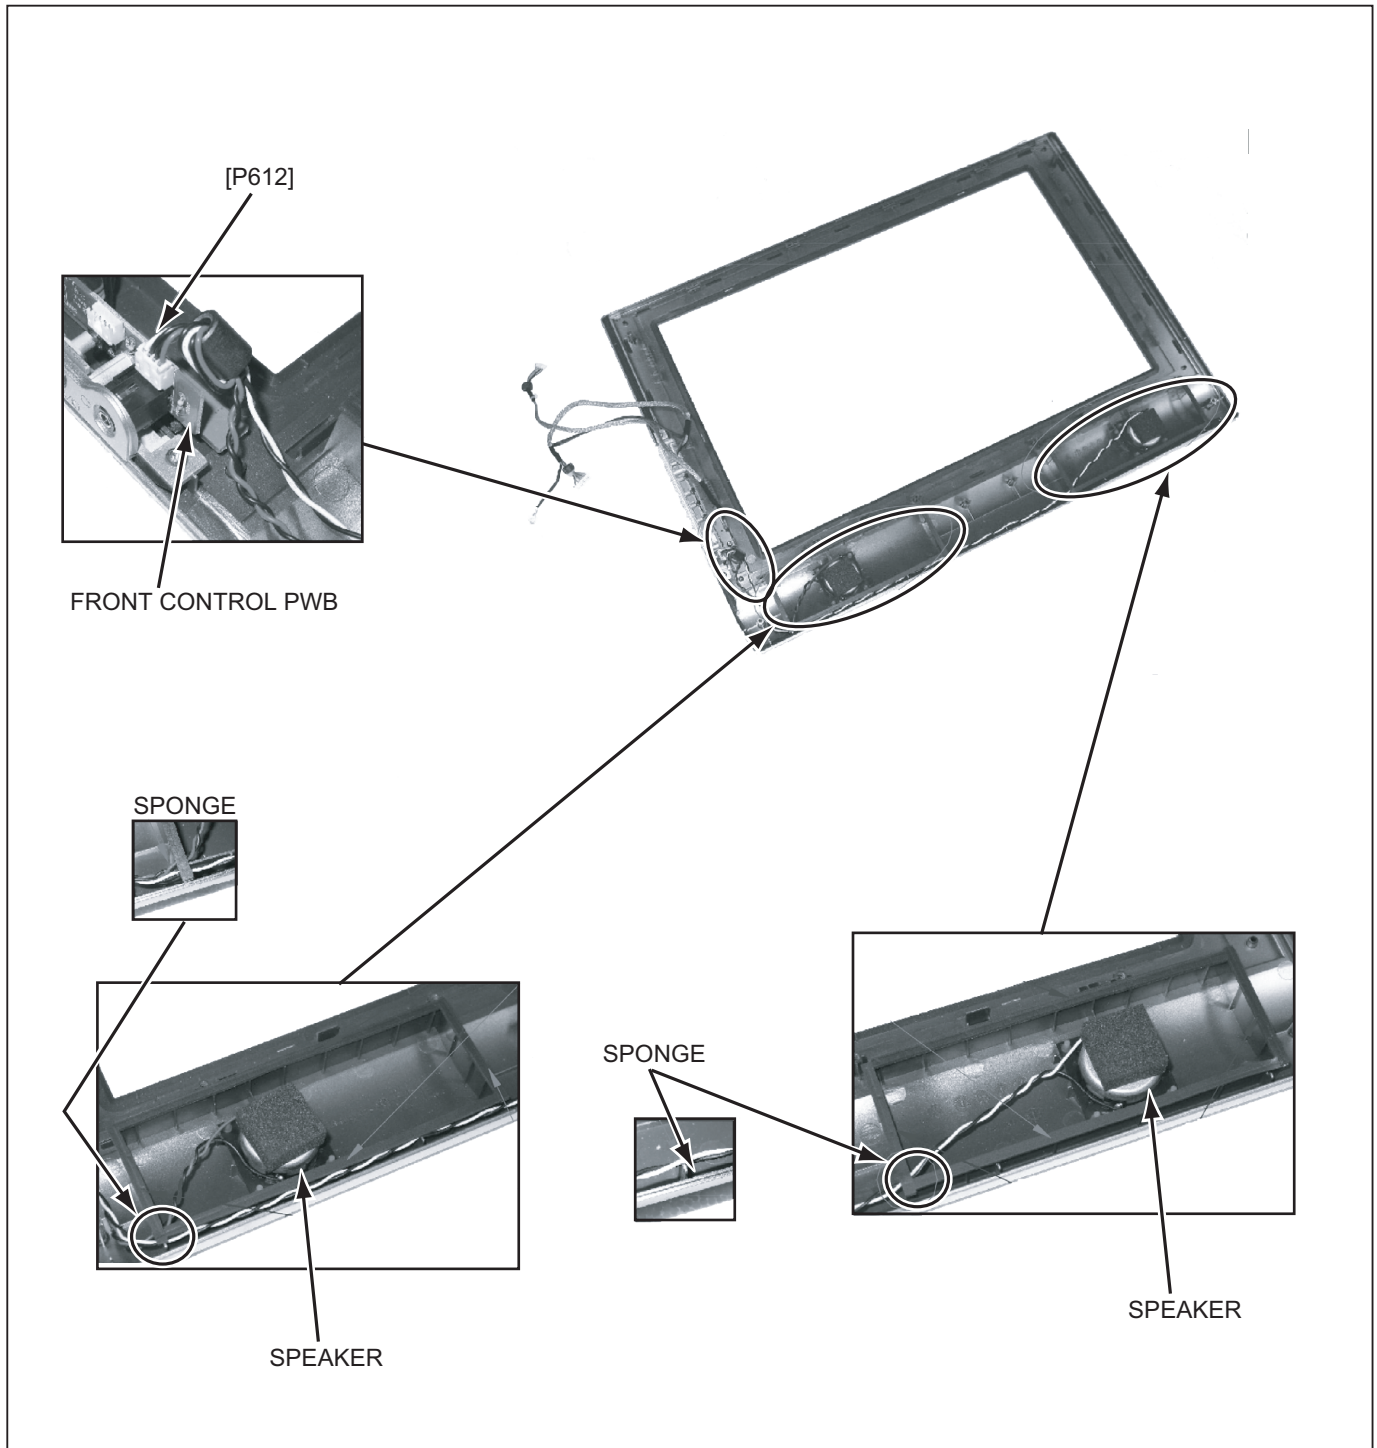

Fig.10
3.1.10 REMOVING THE SPEAKERS (Fig.10)